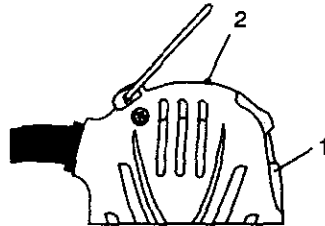

Fig. 1
This cutting tool is equipped with a sliding ON / OFF switch (1) located on the side of the tool and a speed control switch (2) located on top of the tool (see Fig. 1).